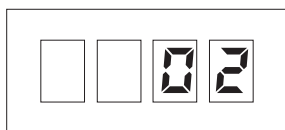

Fig. 16
- Adjustment of treble level is made with treble ② and bass ③ knobs on the control panel. The LED display will show the bass and treble level, for example, 02 or –08 (Fig. 16 and 17). Using the treble and bass knobs, adjust the desired level. The level ranges from +14 to –14.